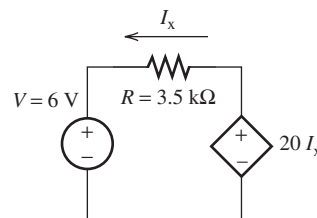

FIGURE P2.63 Circuit for Problem P2.63.
2.63 (A) Find the value of I_x in Figure P2.63.